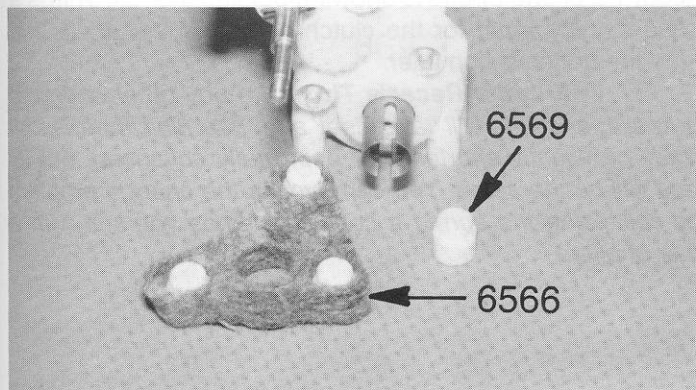
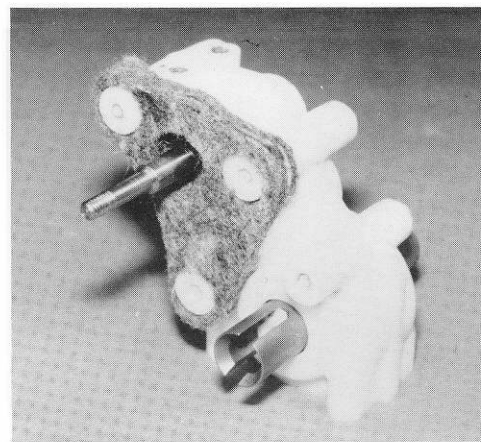

Fig. 65
Fig. 66
□ **Figs. 65 & 66** Back in bag C you will find four #6569 motor plate spacers, and one case dust end cap on a small molded parts tree. Remove the five parts from the tree. Now set the end cap aside; we will use it in a few moments. In bag F you will find the #6566 felt dust seal. Carefully remove the cutouts from the felt seal so that we can install three of the #6569 motor plate spacers into the appropriate holes as shown. Install the spacers so that the small ends will go into the case holes on the right case half as shown in fig. 66.